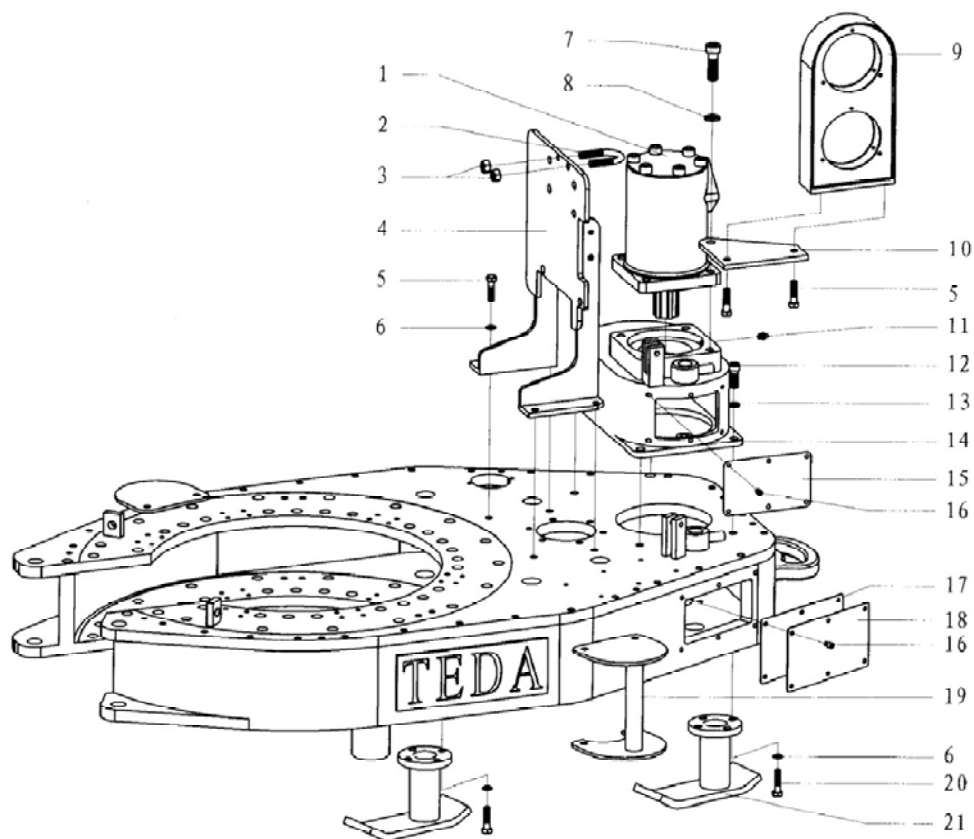

Fig 8
7.5. Tong shell with accessory(2) (Fig8. Table7)